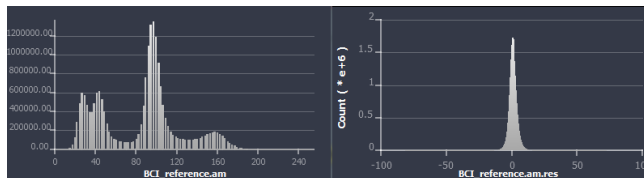

Figure 20.13: Histogram of the Reference Volume (left) and Residual (right)
- Click **Apply** for both (see result on Figure 20.13).